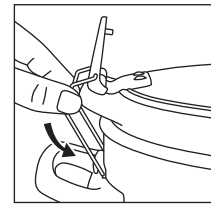
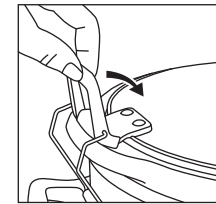
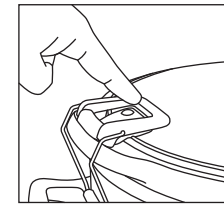

Figure 1
Figure 2
Figure 3
1. Place Lid on Stoneware. Hook Wire Clip onto Clip Hook (Figure 1). Flip Latch around to top (Figure 2) and push Latch down to securely lock (Figure 3). Repeat steps on other side of the lid.